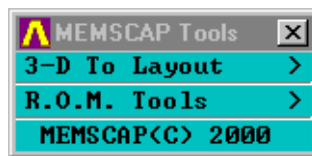

Figure 15: MEMSCAP Tools
- ☒ Then, click **3-D To Layout** (Figure 15).